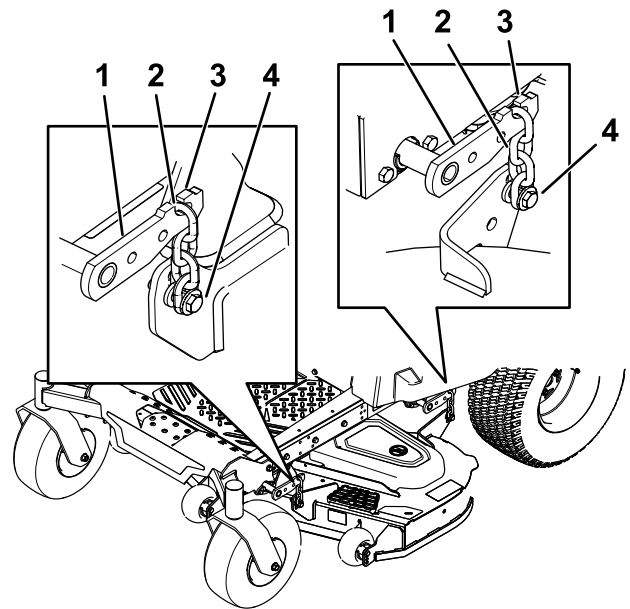

Figure 75
6. Ensure that there is tension on all 4 chains (Figure 75).
7. Tighten the 4 adjustment bolts (Figure 75).
5. Loosen the adjustment bolts on all 4 corners so that the deck is sitting securely on all 4 blocks (Figure 75).